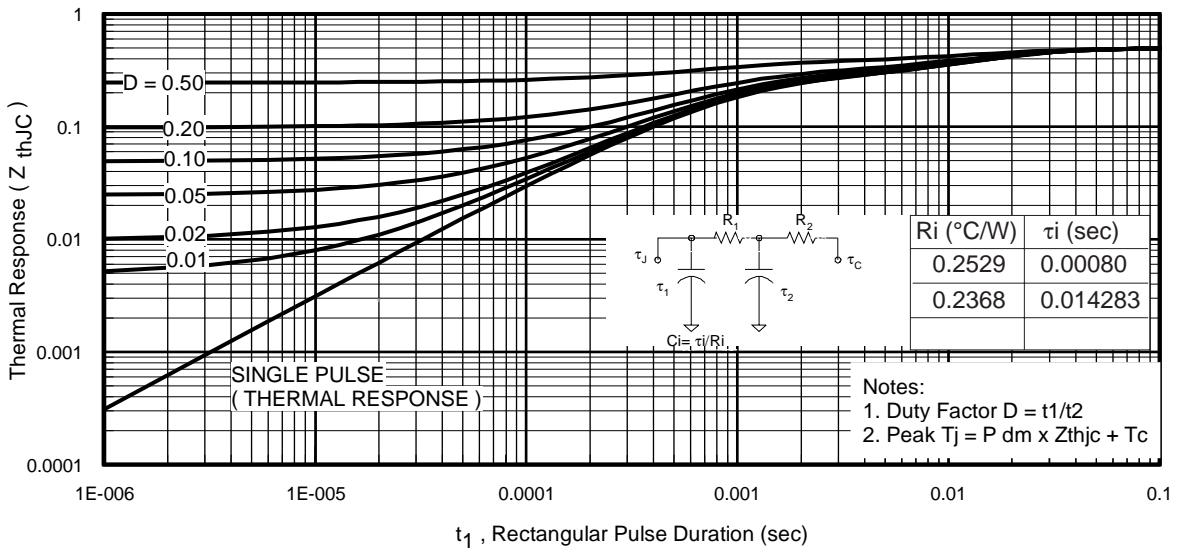

Fig 11. Maximum Effective Transient Thermal Impedance, Junction-to-Case
- ① Repetitive rating; pulse width limited by max. junction temperature. (See fig. 11).
- ② Limited by T_{Jmax}, starting T_J = 25°C, L = 0.12mH
$Z_{thJC}(D, t_{av})$ = Transient thermal resistance, see figure 11)